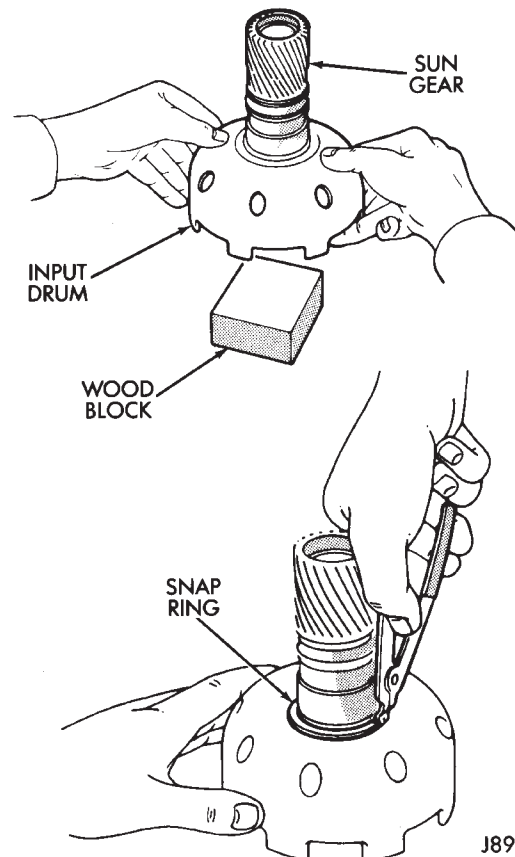

Fig. 6 Removing/Installing Sun Gear
(5) Support sun gear on wood block (Fig. 6). Then remove first sun gear snap ring and separate drum from gear.